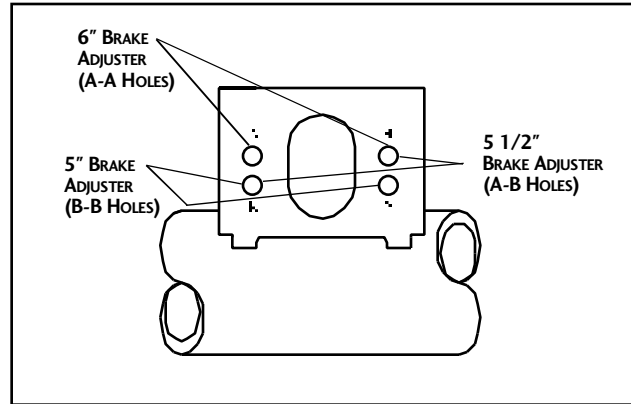

FIG. 4
6. If air brake chambers are replaced, the correct mounting holes must be used to correspond to brake adjuster length (See Fig.4).